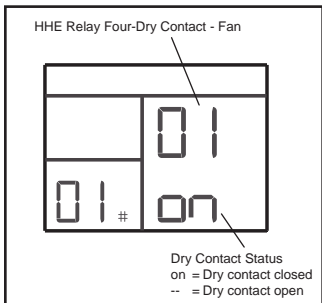

Figure 11. On/Off Status of HHE Relay - Fan
- On/Off status of dry contact one (Fan) (Figure 11)